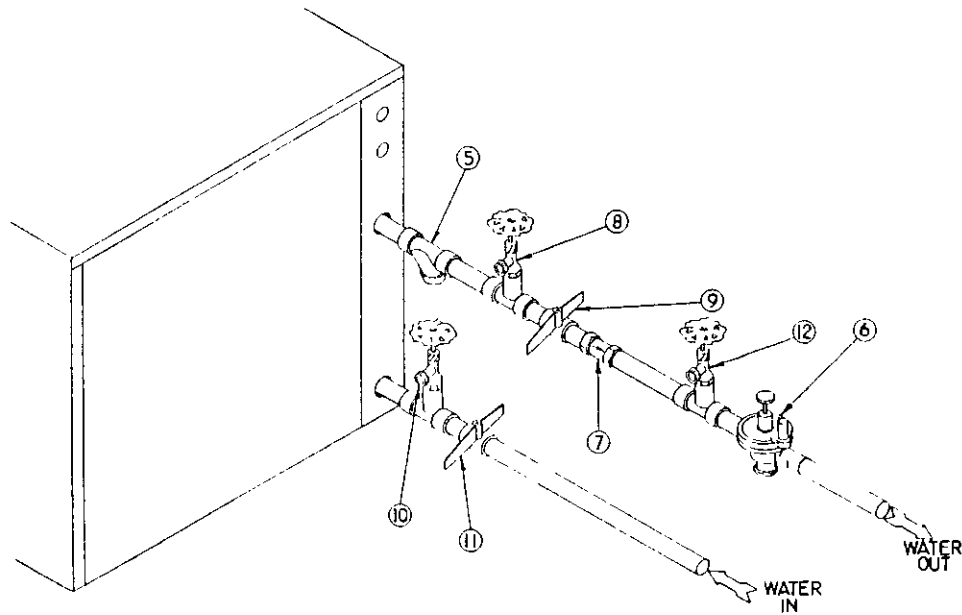

FIGURE 5
Refer to Piping, Figure 5. Slow closing Solenoid Valve (6) with a 24V coil provides on/off control of the water flow to the unit. Refer to the wiring diagram for correct hookup of the valve solenoid coil.
- a) Connect a water flow meter to the drain cock (12, Fig.5) between the constant flow valve and the solenoid valve. Run a hose from the flow meter to a drain or sink. Open the drain cock.